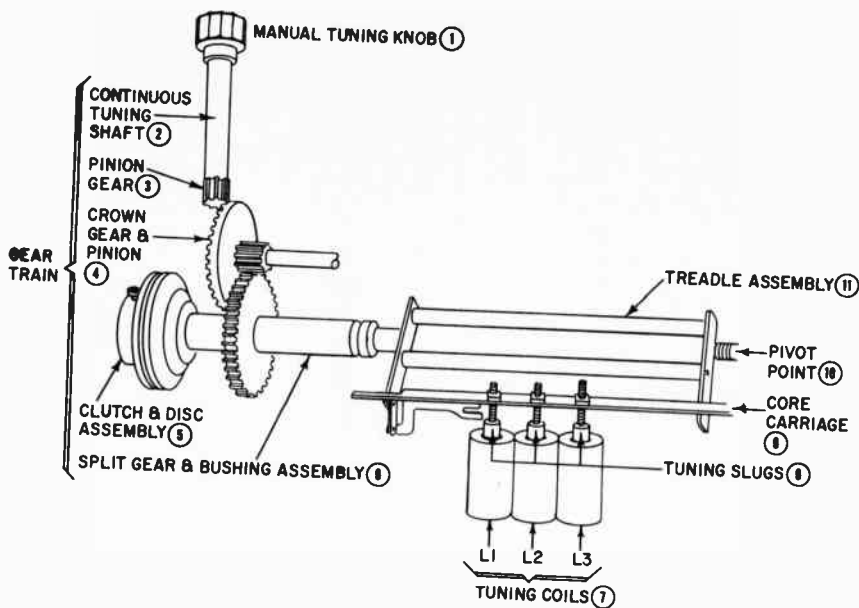

Fig. 602. Typical manually operated continuous tuning unit section of a deluxe auto radio tuner. Pushbutton and search tuning are included.
In manual continuous tuning, the user turns a tuning knob to effect a change in the position of the tuning slugs in the tuning coils associated with the tuned circuits in the radio. A typical manually-operated continuous-tuning unit is shown in Fig. 602. The unit illustrated is the manual continuous-tuning section of a deluxe tuner that also includes pushbutton and search tuning. The continuous-tuning unit consists of tuning coils (7) in which tuning slugs (8) are positioned through the action of a treadle assembly (11). The operation is controlled by a manual tuning knob (1). Motion is transferred from the manual tuning knob to the treadle assembly through a gear train (2,3,4,5 and 6).